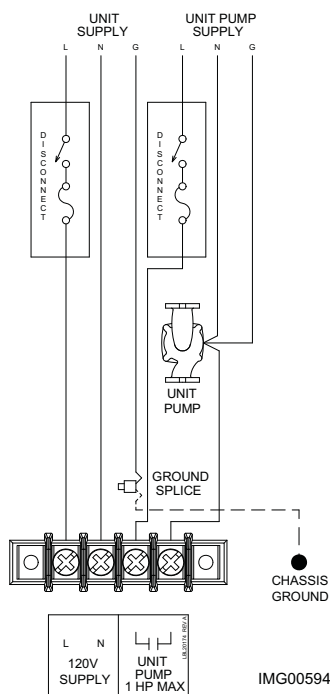

Figure 5-2_Line Voltage Field Wiring Connections
1. Connect 120 VAC power wiring to the line voltage terminal strip in the junction box, as shown in FIG. 5-2.
2. Provide and install a fused disconnect or service switch (15 AMP recommended) as required by the code (see FIG. 5-2).
3. To activate a system pump, wire as shown in FIG. 5-2. If the motor is larger than 1 HP, you must install a contactor.